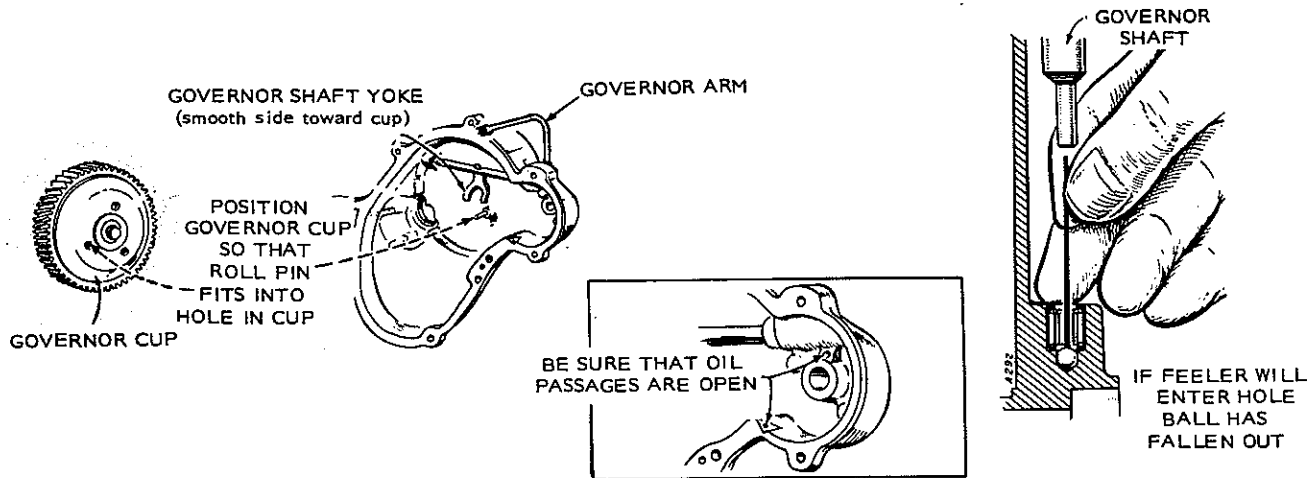

FIGURE 14-4. GEAR COVER ASSEMBLY
1. Work governor shaft to check for binding and see that governor shaft end-thrust ball is in place, Figure 14-4. Later models have a larger ball which will not fall out.
3. Turn governor cup so stop pin in gear cover will fit into one of the holes in cup surface, Figure 14-4.